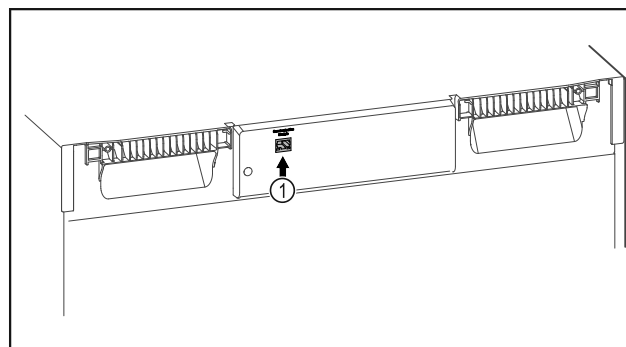

Fig. 83
- SmartModule Fig. 83 (1) is in use.